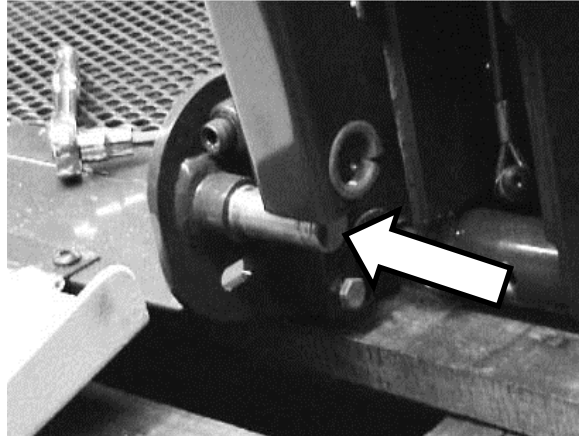

Figure 22. Knuckle Link Arm Platform Stud
9. Refer to **Figure 22**. Insert lower Knuckle Link Arm onto platform stud.